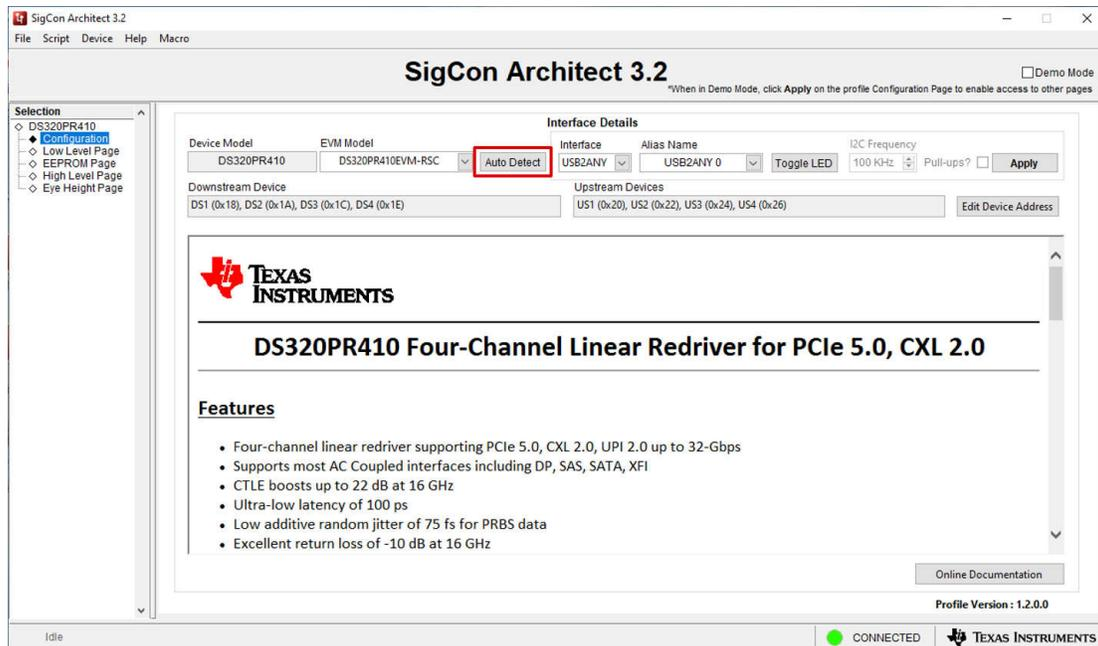

Figure 2-2. SMBus Address Auto Detect
3. Click the *Auto Detect* button to detect the connected device's SMBus/I²C addresses as shown in Figure 2-2. As needed, select the *Edit Device Address* button to manually edit the assigned Downstream and Upstream device addresses.